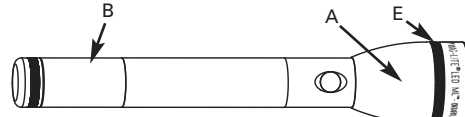
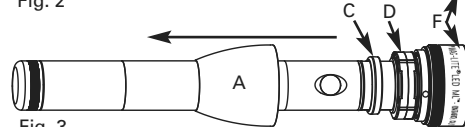

Fig. 2
Fig. 3
Alignment adjustment is a process of unlocking the "skirt" (the back half of the flashlight's head, marked (A) Figs. 2 and 4), sliding the skirt down the flashlight's barrel (B) to gain access to the alignment ring (marked (C) in Figs. 3 and 4), focusing the flashlight to the tightest possible spot beam using the focusing ring (marked (D) in Figs. 3 and 4), and then moving the alignment ring (C) until the best-centered spot is achieved. Here are the steps in more detail:
3. Once you have slid the skirt (A) down the barrel (B), as seen in Figs. 3 and 4, turn the flashlight on. Just behind the knurled ring (E) is a large plastic ring called the focusing ring (D). By turning the focusing ring (D) in either direction, focus the light to the tightest spot possible. Once focused, locate the smaller plastic ring, called the alignment ring (C), which you will use to adjust the beam alignment. Grasping the flashlight's barrel (B) in your left hand (see Fig. 4), take the alignment ring (C) between the thumb and index finger of your right hand. Then "tilt" the alignment ring (C) in different directions and watch the effect on the spot as you do this. You will see the spot become either more distorted or closer to round. When you find the position where the spot is as close to round as possible, the beam is optimally aligned. Leave the alignment ring (C) in that position.